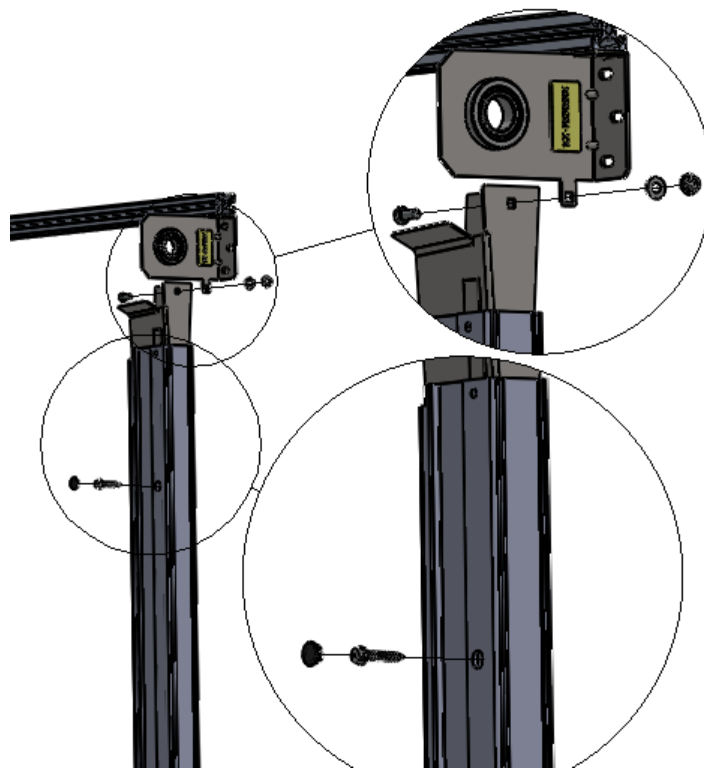

Figure 7 MOUNT TRACK TO HEADER & MOUNT TRACK TO WALL
1. Starting with either the left or right side, loosely “hang” the Track Assembly by its Transition Bracket Mount hardware. Note that the transition Bracket mounts to the inside of the tab of the Header Assembly Mounting Bracket. It is important to insert the carriage bolt from the inside of the transition and the washer and hex nut on the outside of the assembly as shown. (Figure 7 MOUNT TRACK TO HEADER & MOUNT TRACK TO WAL)
3. Move the Track Assembly off to the side and predrill its mounting holes. Move it back into place and secure it to the wall with appropriate hardware. Before fully tightening hardware, be sure to each track is plumb/vertical. Replace the black plastic plugs in the mounting access holes on the Track front. (Figure 7 MOUNT TRACK TO HEADER & MOUNT TRACK TO WAL)